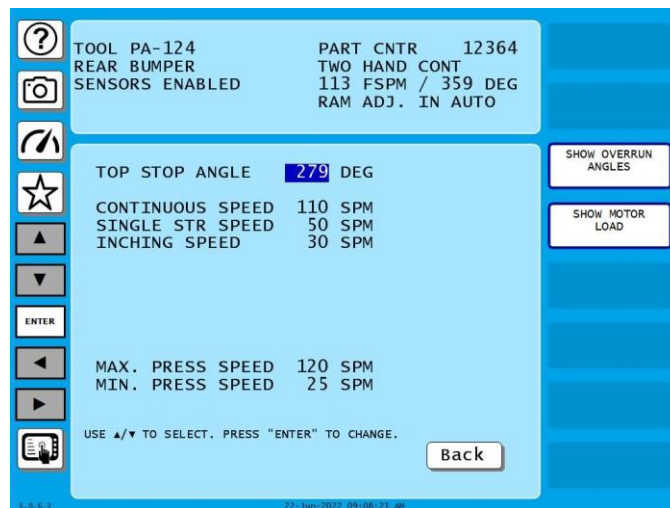

Figure 5-2. Press Control Run Screen
- When the Press Control Run screen displays, Figure 5-2, turn the Stroke Select key switch to CONT (i.e., Continuous).